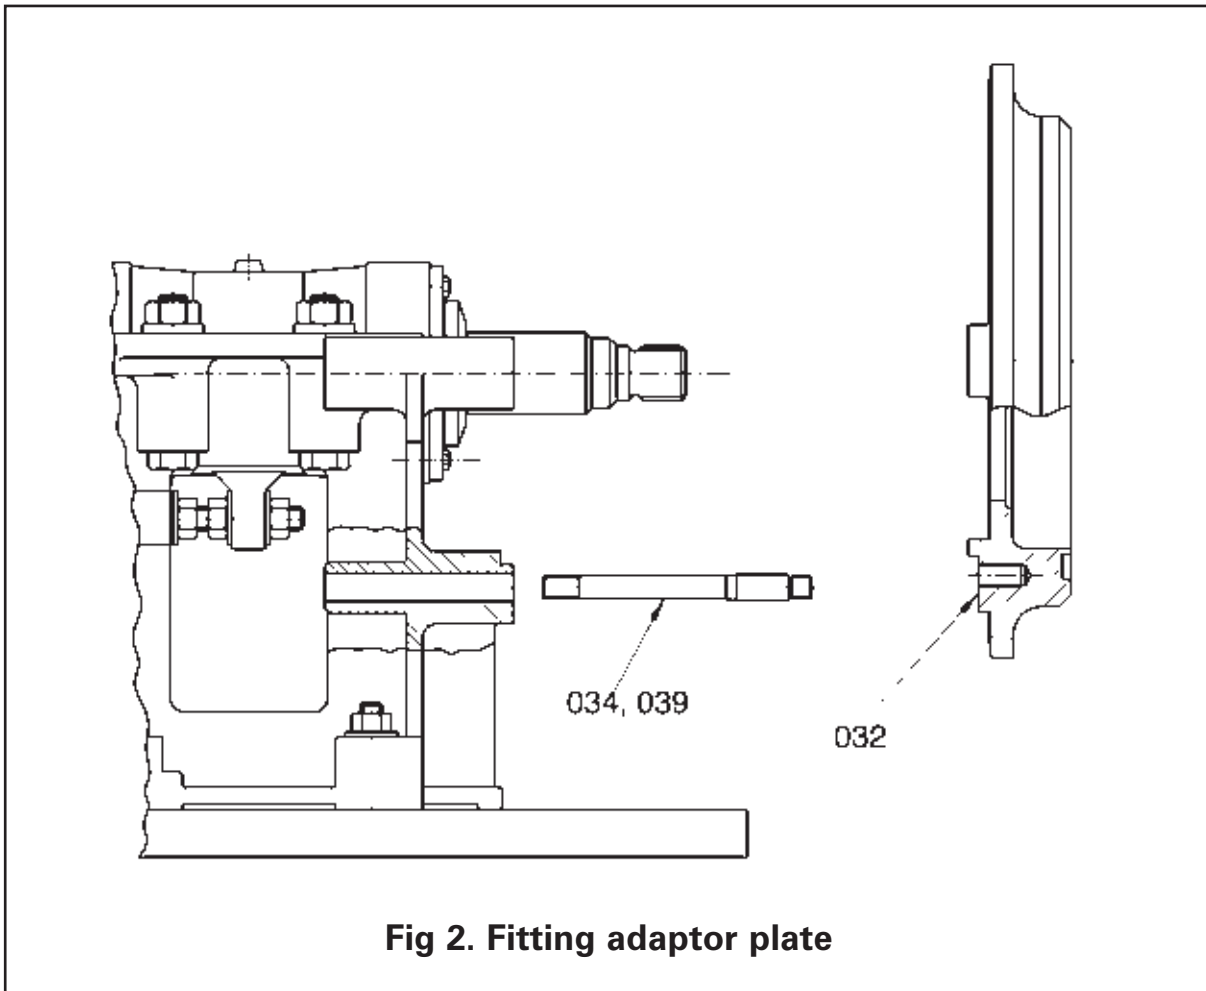

Fig 2. Fitting adaptor plate
- (v) Apply anti-seize compound to **shaft** (073) protruding from **labyrinth** (062) at Impeller-end. This will assist fitting and removal of shaft components, and prevent damage to shaft surfaces by moisture.
- (vi) Fit two pieces of timber, or an appropriate assembly cradle, to underside of base to prevent the pump from tipping forward during assembly of casing, as shown in fig 2. Ensure that the base is at a sufficient height above the floor to enable casing components to be assembled.
Refer fig 2